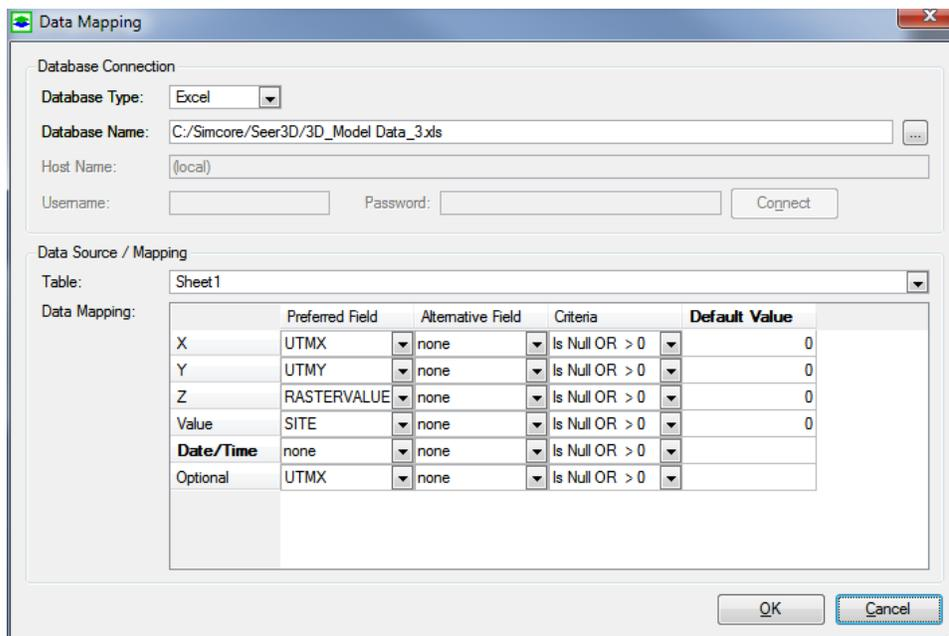

Figure 2.20. The Data Mapping dialog box for scattered data
- *Import from Database*: To import data from a database, click this button to open a *Data Mapping* dialog box (Figure 2.20). The available options are: